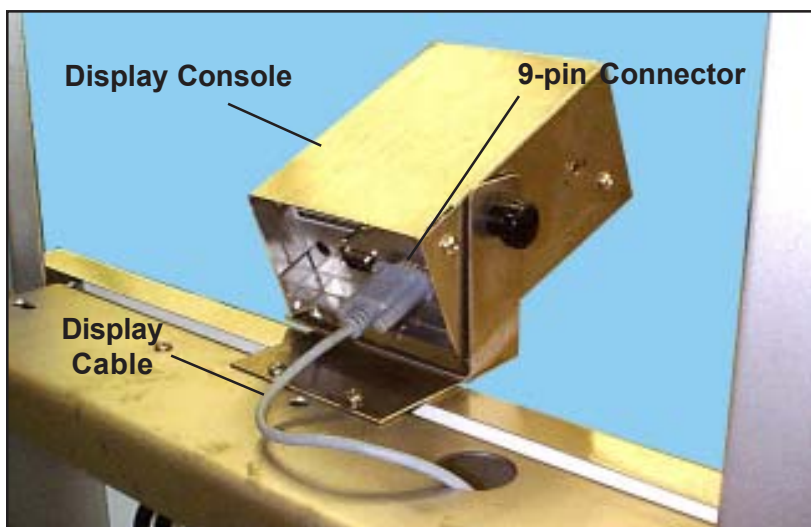

Figure 55. Display Cable Connection
1. Unplug the display cable from the 9-pin terminal on the bottom of the display console (Figure 55).
4. Plug the display cable into the 9-pin terminal on the display console (Figure 55).